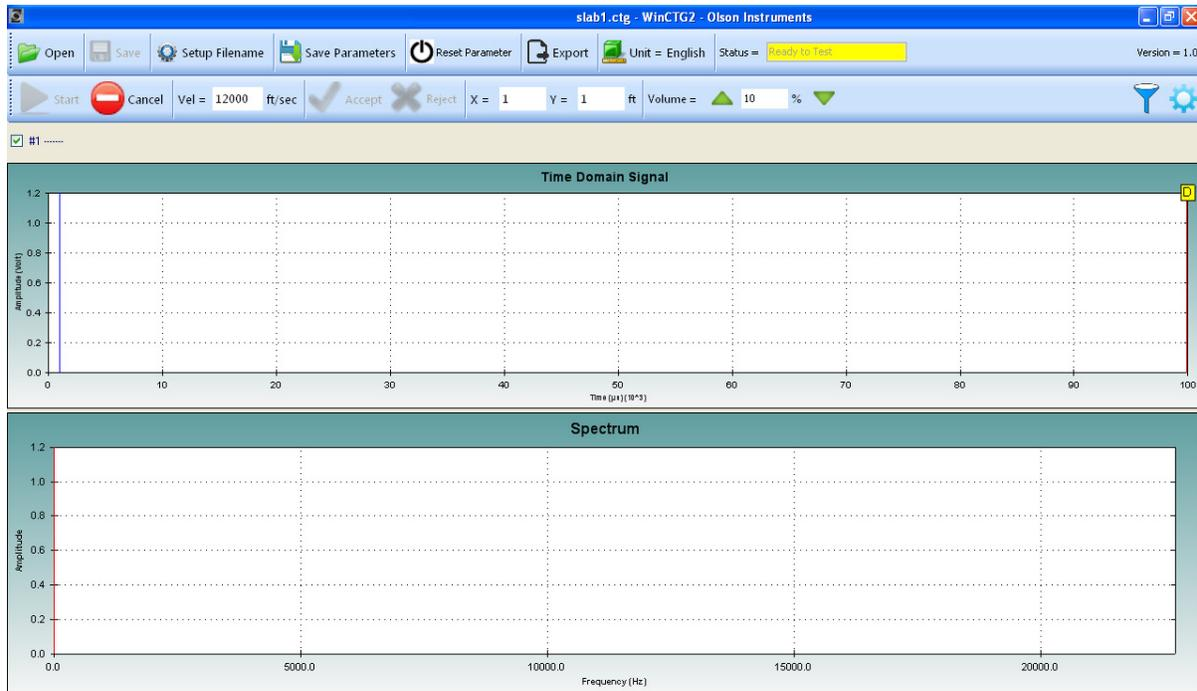

Figure 5 – System Waiting to Receive Data
5. After selecting the “Start” option on the Toolbar, the system is now waiting to receive data (in the form of an impact) as reported in the “Status” field which is currently in “Ready to Test” mode. See Figure 5 below.